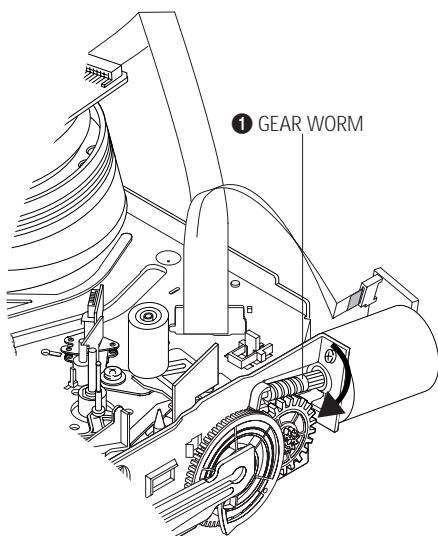

Fig. 2
- 1) Turn the Gear Worm ❶ clockwise in the direction of arrow with screwdriver. (See Fig. 2)
- 3) Rotate Gear Worm ❶ clockwise using screw driver again up to the state of eject mode and then pick out the tape. (Refer to Fig. 2)